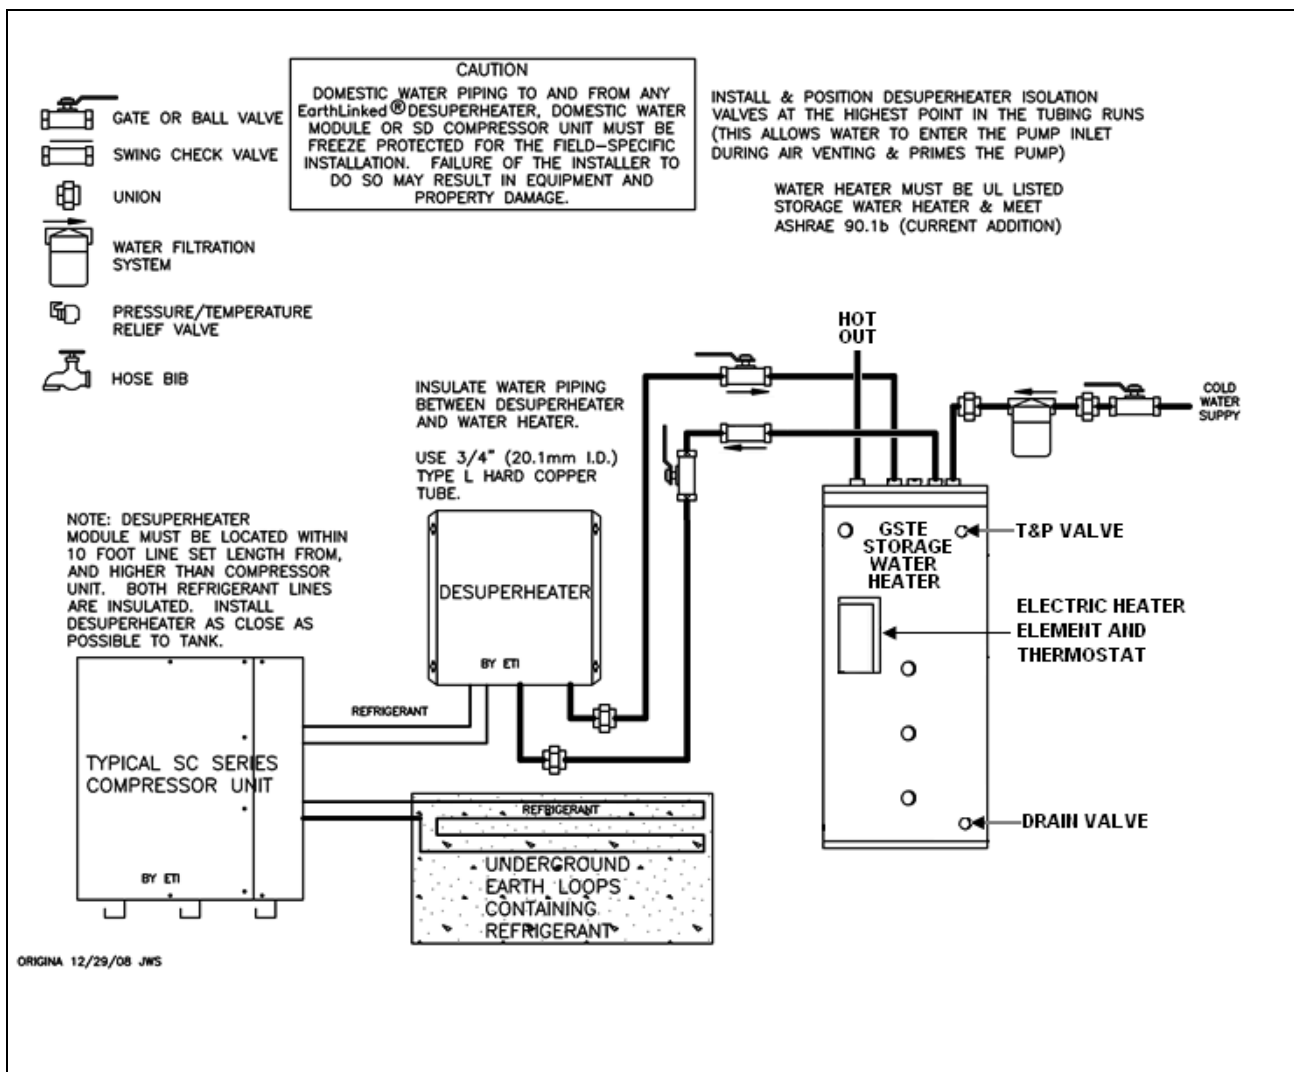
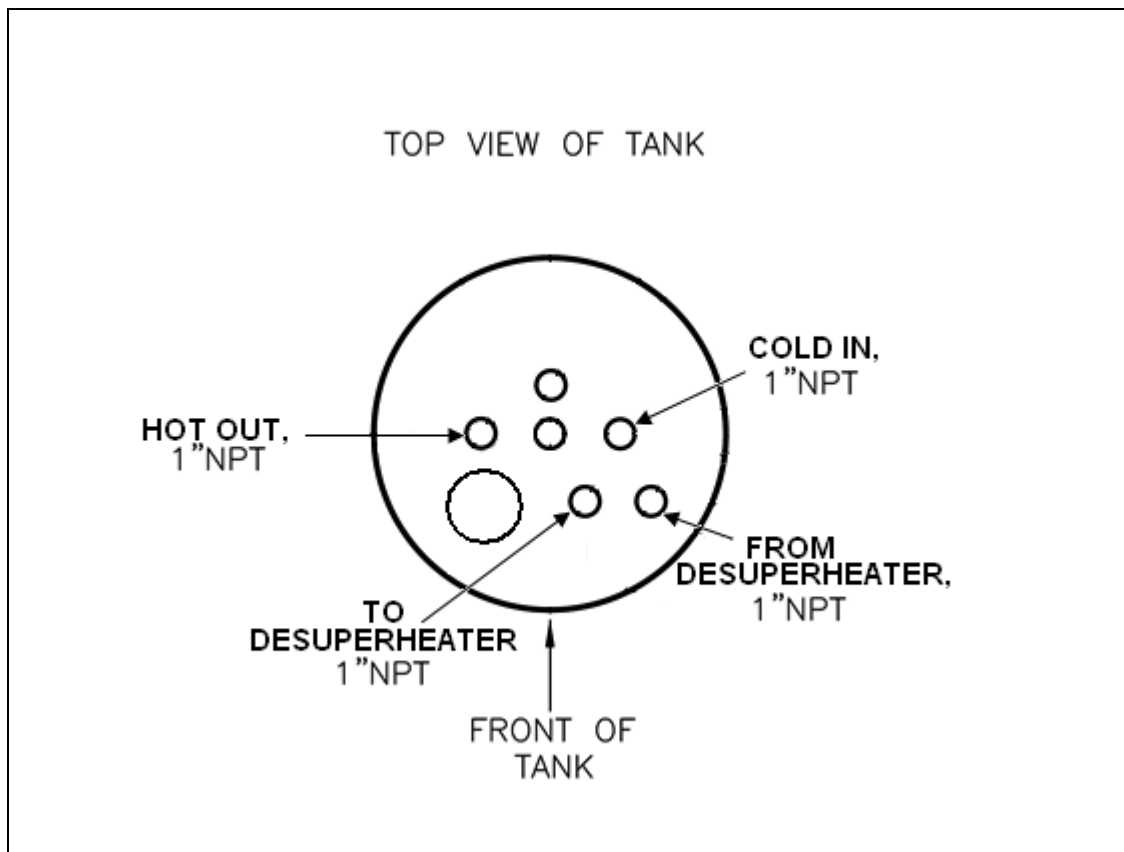
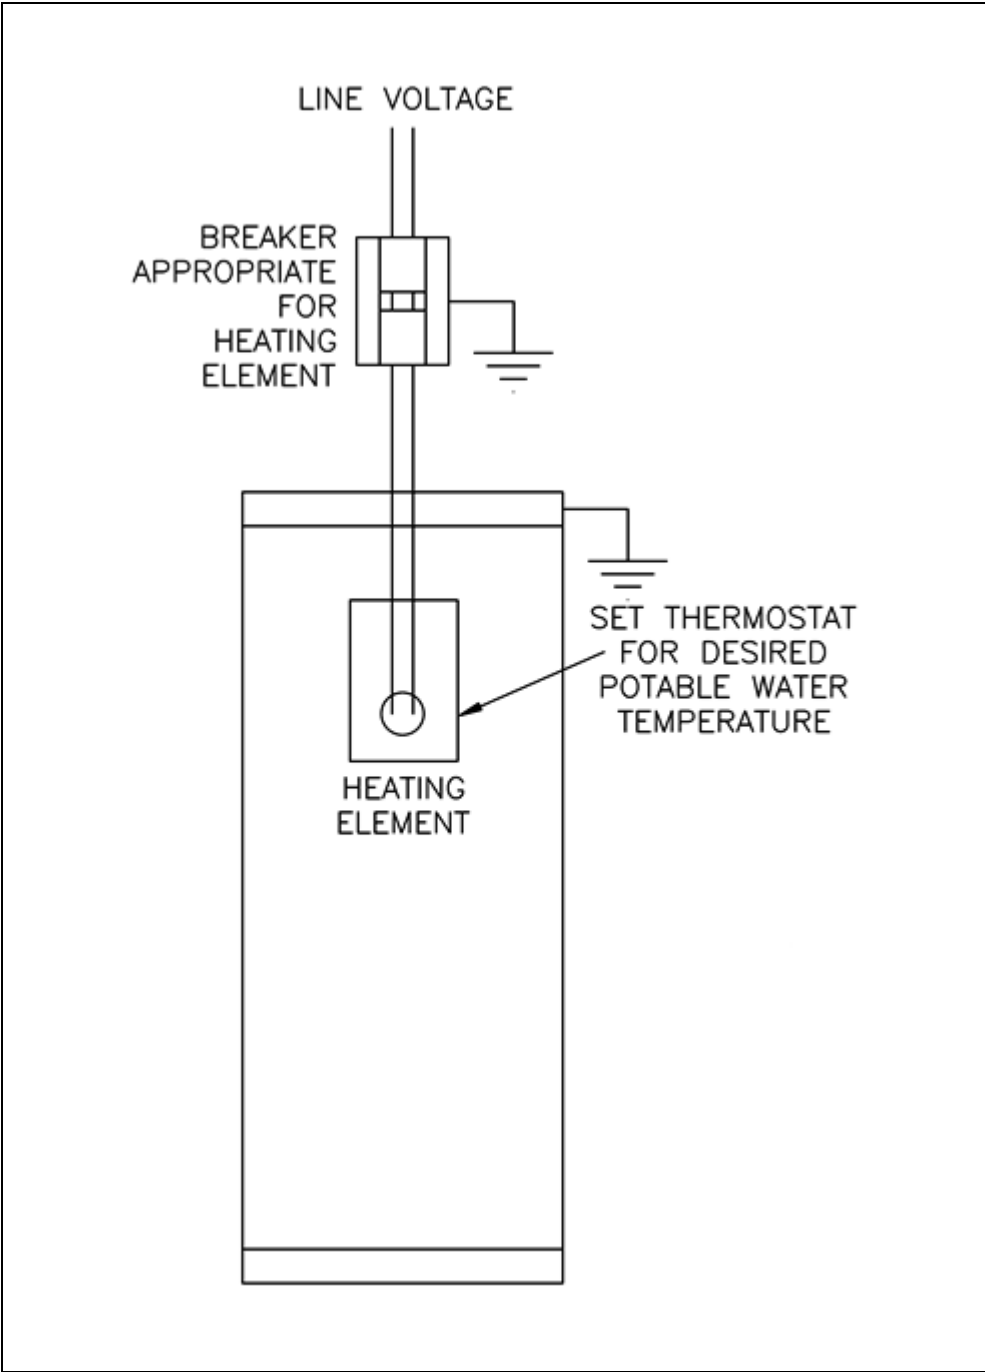

Figure 4a. Desuperheater Water Heating Application
Figure 4b. Top of Tank Connections – Desuperheater
Figure 4c. Electrical Field Wiring – Desuperheater
- Figure 4a. Desuperheater Water Heating Application 12
- Figure 4b. Top of Tank Connections – Desuperheater 13
Figure 4a illustrates the installation of a GSTE storage water heater with a Desuperheater supplementing the hot water heating function. Although the desuperheater in Figure 4a is shown as a separate unit, (as Desuperheater Kit Model DSH-1872 applied to SC and SW compressor units) the installation instructions apply to the SD compressor unit also. (The SD incorporates the desuperheater within the compressor unit cabinet). Location of the water heater from the Desuperheater (or the SD compressor unit) is to be no more than 10 ft. apart. Water piping connections between the Desuperheater (or SD compressor unit) and the water heater are ½” Type L copper. Details for the ports and connections on top of the water heater are shown in Figure 4b. The electrical field wiring for the electric heating element and thermostat are illustrated in Figure 4c.